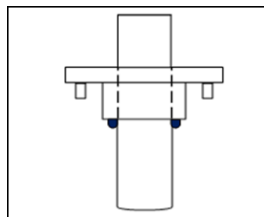

Figure 1
- In particular, the set up and installation of the adjustable lifting collar on the hydraulic cylinder must be secured in its correct position with two strategically placed welds in accordance with the manufacturers' installation requirements. (See Figure 1)